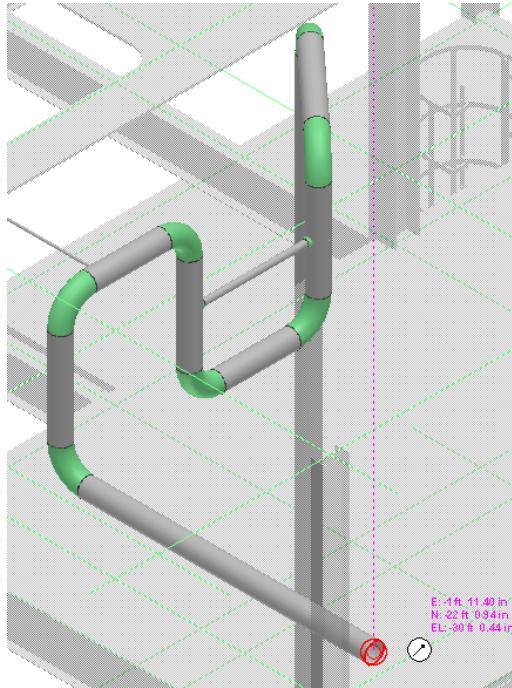

Figure 37: Free End of the Pipe
61. Locate the free end of the pipeline **300-W**, as shown in Figure 37. Click the **Reposition Target** option on the **PinPoint** ribbon and put the target at the free end of the pipe.